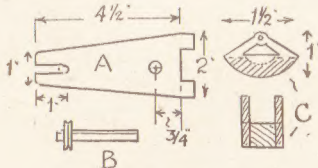

Fig. 3—Wheel support parts
For the pair of standards, cut two at (A) in Fig. 3, from $\frac{3}{8}$ in. wood to the shape given. The slot at the top is just $\frac{3}{8}$ in. wide. To the length of the standards, add $\frac{3}{8}$ in. for the two tenons at the bottom. These will be cut to the size, and spaced apart, to suit the mortises in the base. On the centre, and at $\frac{3}{4}$ in. from the bottom, bore a $\frac{3}{8}$ in. hole through both for the axle of the second pulley already mentioned. Now glue the standards in the base.
The boats (C) in Fig. 3, consist of side pieces of $\frac{3}{8}$ in. wood, cut to the complete shape, with a $\frac{1}{2}$ in. thick piece of deal between, cut to the shape shown by shaded lines. The holes at the top are drilled to suit the wires mentioned.